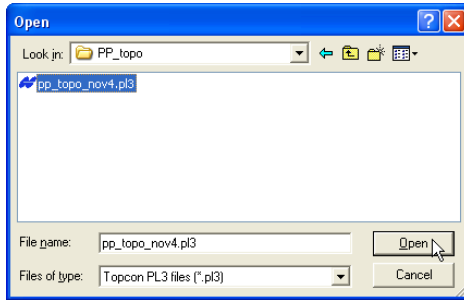

Figure 7-3. Open 3D Plane Surface File
2. On the **Open** dialog box, navigate to the location of the file, select the file type as 3D Plane (\*.pl3), select the desired file, and click **Open** (Figure 7-3).